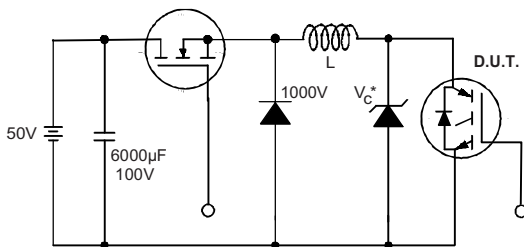

Fig. 19 - Clamped Inductive Load Test Circuit
(2)  $V_{CC} = 80\%$  ( $V_{GES}$ ),  $V_{GE} = 20\text{ V}$ ,  $L = 10\text{ }\mu\text{H}$ ,  $R_G = 50\text{ }\Omega$  (see fig. 19)